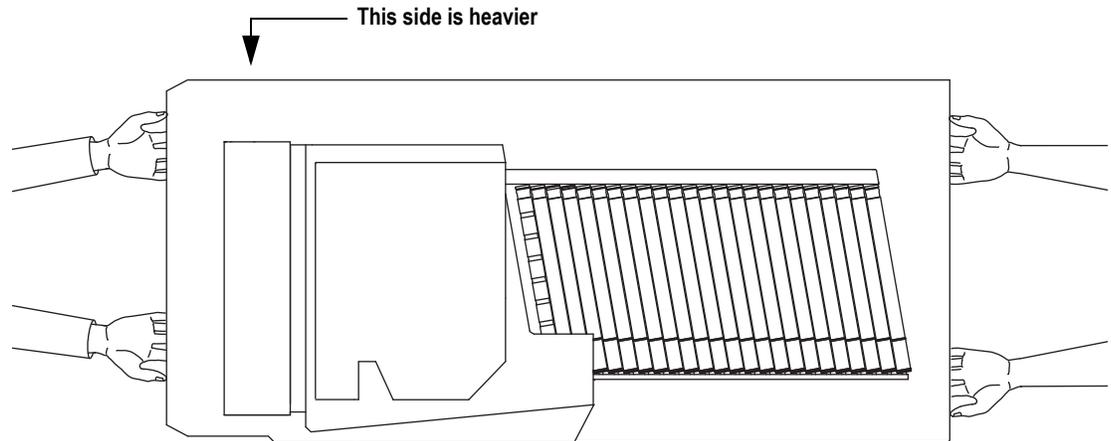

FIGURE 1: Holding the scanner (bird's eye view)
- 6 With two people lifting (see Figure 1), remove the DS1225 from the carton and set the DS1225 in the location where you want to use it. The DS1225 should be set up on a clean, level flat surface. Make sure it is secure and level, so you do not run the risk of the scanner tipping or falling, causing damage to the machine or yourself.
- 7 Remove the contents from the accessory box. The accessory box that includes the user manual, calibration & diagnostics documents, install CD with TWAIN driver, power cord, USB cable, and sort trays (2).